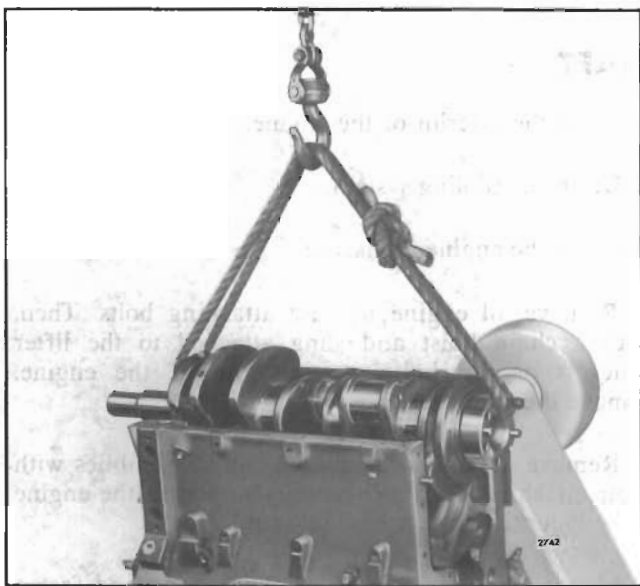

Fig. 2 - Removing or Installing Crankshaft
20. Remove the crankshaft (Fig. 2), including the timing gear and oil pump drive gear.